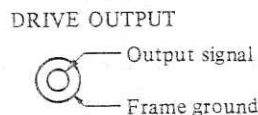

Fig. 7-4 Relay Drive Output Connector
DRIVE OUTPUT connector (31) on the instrument's rear panel is an RCA-type pin jack. As shown in Fig. 7-4, the inner conductor supplies output and the outer conductor is connected to the frame ground. For connecting DRIVE OUTPUT connector (31) and relay, connect the inner conductor and the  $\oplus$  terminal of the coil, and the outer conductor and the  $\ominus$  terminal of the coil. If the coil of the relay has no polarity, either connection is allowed.